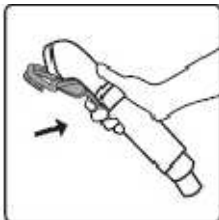

**fig.23**
- Align the slot on the back of the fabric brush with the clip on the bottom of the steam head and gently slide the brush up on to the face of the steam head. (fig.23)